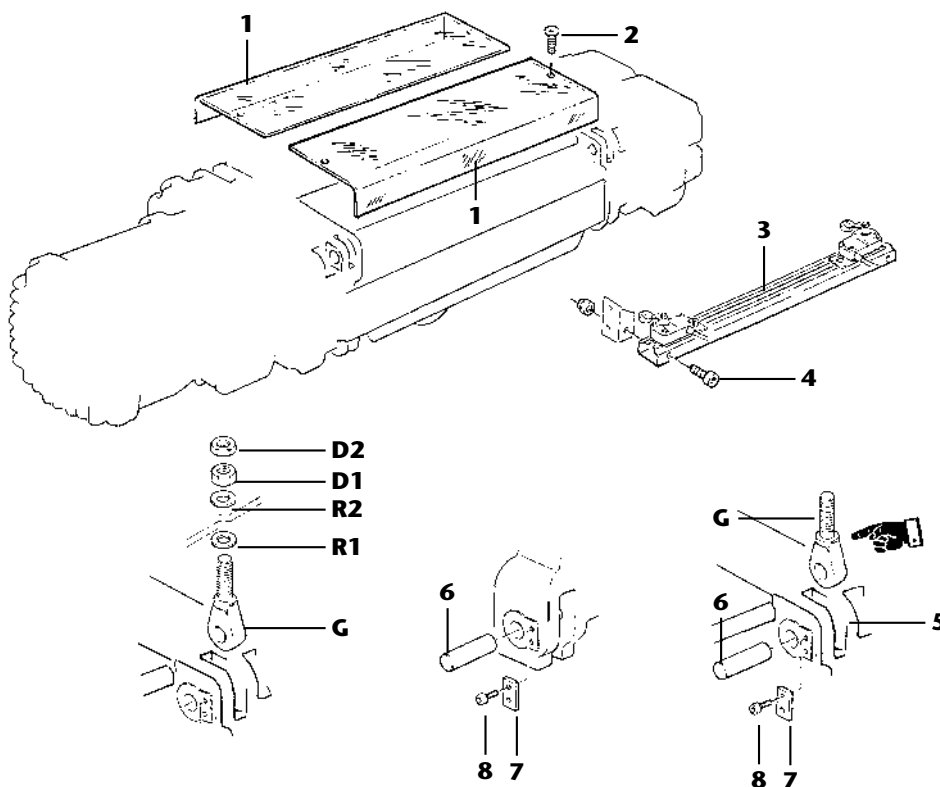

fig. 29
*Removal of the pivots from the lower zone and their assembly in the upper zone to allow the suspension of the hoist (fig. 29):*